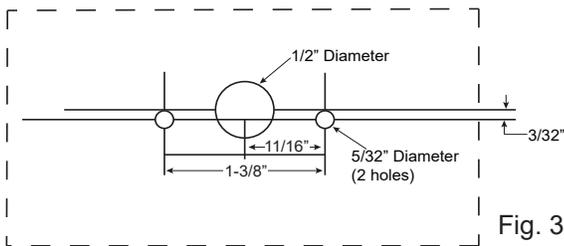

Fig. 3
2. After location of Drain Kit is determined, locate and drill 3 holes per dimensions on Fig. 3. The steel mounting plate with the 1/2" center hole can also be used as a template to mark holes. Repaint edges of drilled holes on metal cabinet to prevent rust or corrosion.